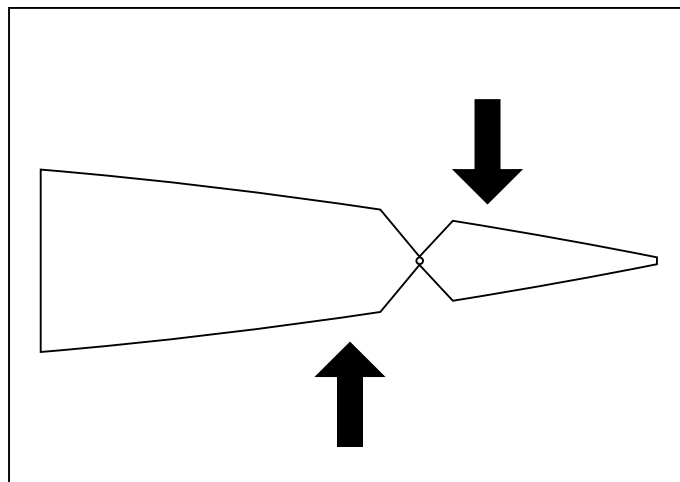

Figure 1 - Test for hinge movement and loose hinges
1. Verify the elevators and rudder are properly hinged and in good working order. Pinch a control surface between your thumb and forefinger and grasp the stabilizer with your other hand. Attempt to move the control surface back and forth perpendicular to the stabilizer (see Figure 1). Watch the hinges for movement. If you find any loose hinges, apply Foam-Cure or 15/30 minute Epoxy, being sure to stay away from the hinge pivot, to the loose side(s) of the hinge(s) and re-insert into its location. **DO NOT apply thin CA to pin hinges!** Ensure that the hinge moves freely.